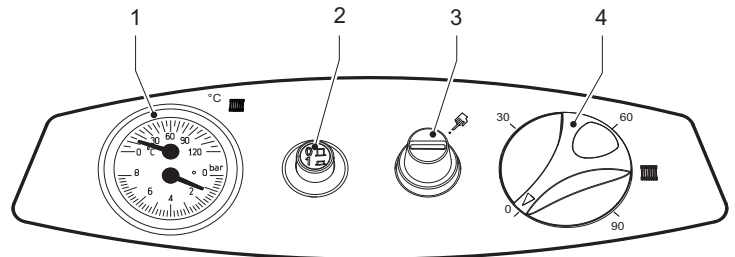

fig. 1 - Control panel
- Set the boiler control thermostat (ref. 4 - fig. 1) to minimum.
- Set the boiler control thermostat (ref. 4 - fig. 1) to the desired temperature (not below 50°C).
Turn the control thermostat 4 (fig. 1) clockwise to increase the heating water temperature, or anticlockwise to decrease it. The temperature can be varied from a minimum of 30°C to a maximum of 90°C. However, it is advisable not to operate the boiler below 45°C.
Set the desired temperature in the rooms with the room thermostat. Controlled by the room thermostat, the boiler lights and brings the system water to the temperature set by the control thermostat 4 (fig. 1). The generator goes off when the required temperature in the rooms is reached.
The filling pressure with system cold, read on the boiler water gauge (ref. 1 - fig. 1), must be approx. 1.0 bar. If, during operation, the system pressure falls (due to the evaporation of gases dissolved in the water) to values below the minimum described above, the User must bring it to the initial value by operating the filling cock. At the end of the operation always close the filling cock.
Boiler shutdown due to insufficient evacuation of fumes	Unscrew the fume thermostat cover (detail 3 - fig. 1) and press the button below. In case of repeated shutdowns, contact the nearest service centre.